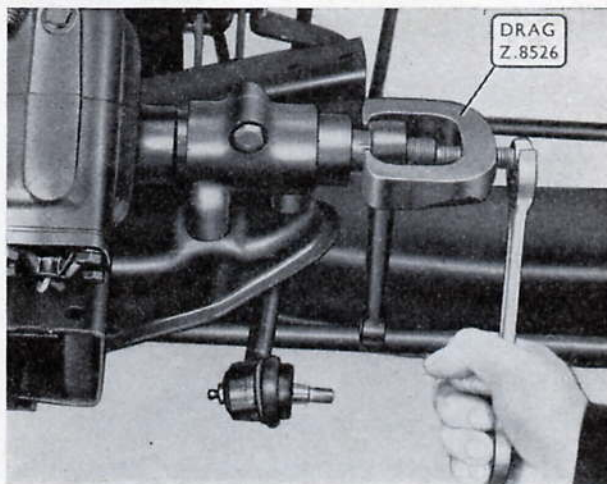

Fig. M.6. Removing the steering drop arm
3. Remove the nut and lockwasher securing the drop arm, and withdraw the arm (Fig. M.6).